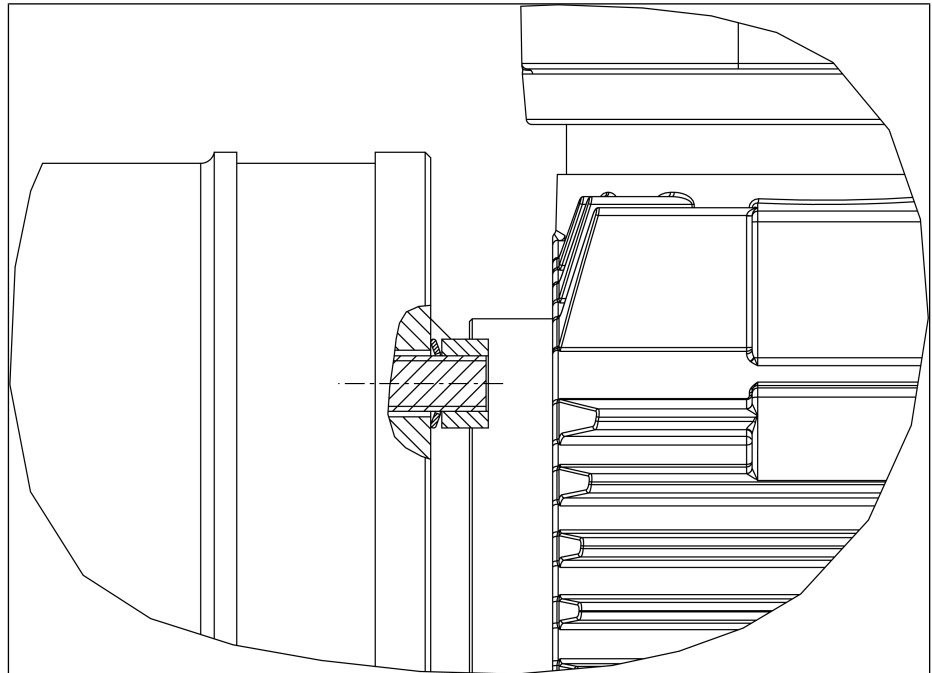

Fig.11 Alignment of the ribbed disk (2)
3. Check whether the flange surface of the motor (3) and the flange surface of the compressor housing (7) lie properly on top of one another.
4. Push the 4 serrated washers (2) onto the stud bolts (8).
i Make certain that the inner diameter of the serrated washer (2) lies against the nut (1) and the outer diameter lies against the motor flange (3) (see Fig. 11).